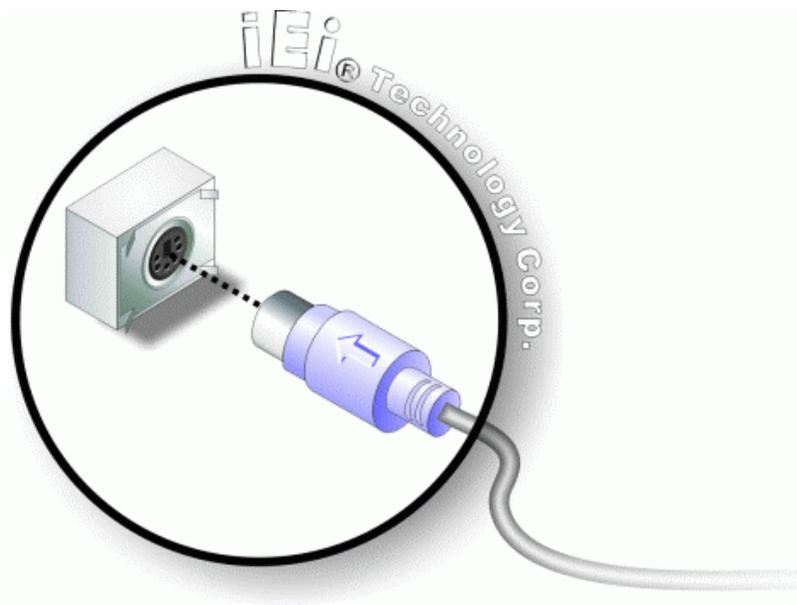

Figure 5-15: PS/2 Connector
- Step 3: Insert the PS/2 connector** Once the connectors are properly, insert the PS/2 connector from the keyboard into the PS/2 connector on the IOWA-MARK. See Figure 5-15.